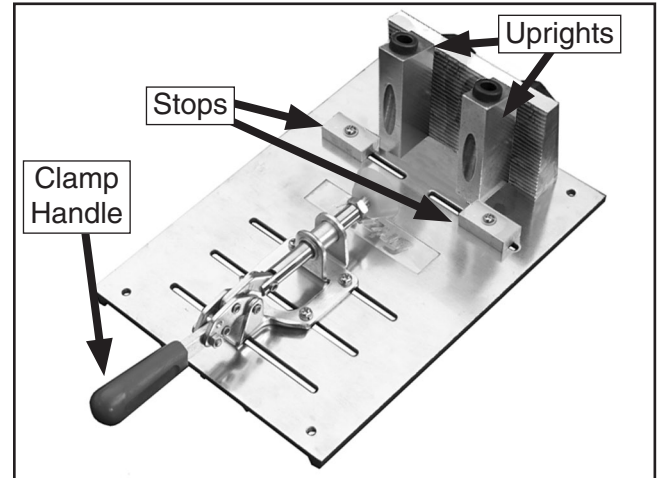
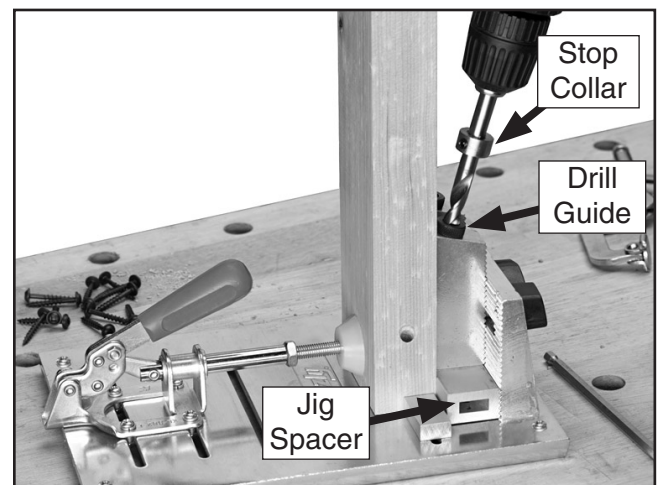

Figure 2. Jig components.
Figure 3. Drilling using the pocket hole jig.
2. Adjust the stops and uprights, shown in **Figure 2**, to align the workpiece with a drilling hole. If necessary, place the jig spacer underneath the uprights, as shown in **Figure 3**, to prevent the workpiece from tilting when it is clamped.
5. Loosen the stop collar indicated in **Figure 3**.